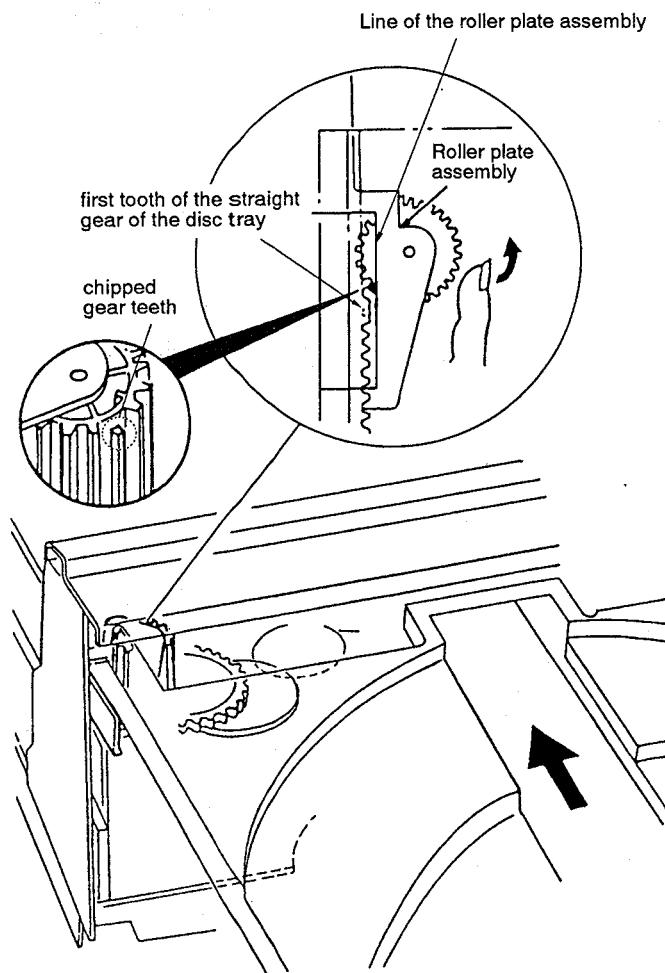

Fig. 19
- ① Adjust the gear positions in the loading mechanism for the disc tray open status, as Ⓐ and Ⓑ mentioned below.
- ② The top of one of the gear teeth of the roller plate assembly has been chipped off. Finely adjust the position of this chipped tooth by turning the gear counterclockwise so that the tooth comes halfway on the roller plate line.(Fig.19)